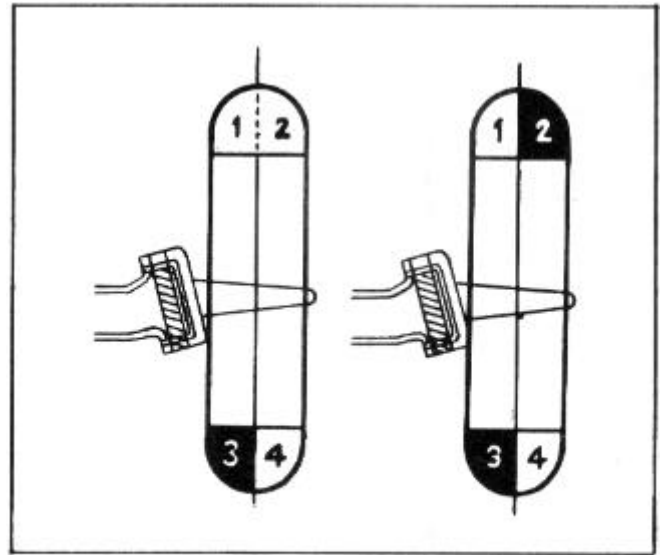

FIGURE 1
Statically--Figure 1
Static unbalance of a tire and wheel causes the heavy portion (3) to go to the bottom as in Figure 1 and to obtain a true static balance, weights will have to be added on the rim opposite the heavy portion that went to the bottom. Gradually move the weight apart, equal distances from starting point until wheel is in balance.
To balance the wheel and tire assembly a piece of putty may be used instead of fastening the regular weights onto the rim. The quantity of putty may be added to or reduced until the static balance is obtained, as in Figure 1.
The putty can then be weighed and balanced weight or weights attached permanently to the rim to correspond to the weight of the putty. The sum of the weights of section (1) and (2) is equal to the sum of the weights of section (3) and (4), Figure 1. The weight, therefore, is equally distributed about the axis of rotation. The weight at (2) being balanced by the weight at (3). However this wheel is not in dynamic balance because section (1), Figure 1 is lighter than section (2) and section (4) is lighter than section (3).
The wheel and tire is in static balance as shown in Figure 1, however, with reference to the center line, section (1) is lighter than section (2), also section (3) is lighter than section (4).